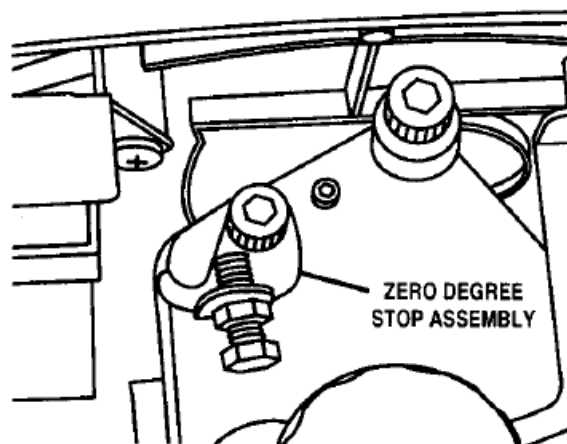

Fig. 12
- The zero-stop assembly can be rotated to the left and down out of the way and the table can be angled up to 12° to the left. See Figure 12.